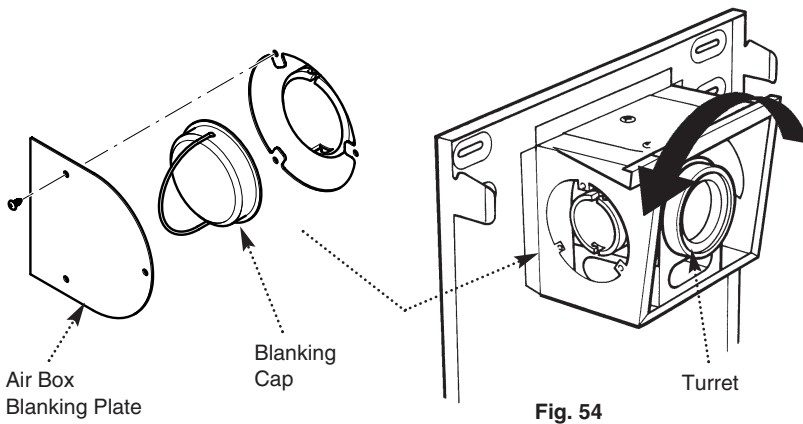

Fig. 53
1. Remove the left or right hand air box blanking plate, as appropriate, from the back plate air box by releasing the three screws (Fig 53).
2. Rotate the turret to face the selected opening (Fig. 54) and remove the side blanking cap by pushing in and turning anti-clockwise to release the bayonet fitting (Fig. 53).